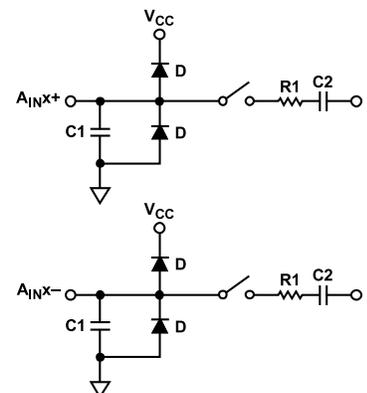

Figure 30. Equivalent Analog Input Circuit, Conversion Phase—Switches Open, Track Phase—Switches Closed
Figure 30 shows the equivalent circuit of the analog input structure of the AD4680/AD4681. The four diodes (D) provide ESD protection for the analog inputs. Ensure that the analog input signals never exceed the supply rails by more than 300 mV. Exceeding the limit causes these diodes to become forward-biased and start conducting into the substrate. These diodes can conduct up to 10 mA without causing irreversible damage to the device.
The C1 capacitors in Figure 30 are typically 3 pF and can primarily be attributed to pin capacitance. The R1 resistors are lumped components made up of the on resistance of the switches. The value of these resistors is typically about 200  $\Omega$ . The C2 capacitors are the sampling capacitors of the ADC with a capacitance of 15 pF typically.